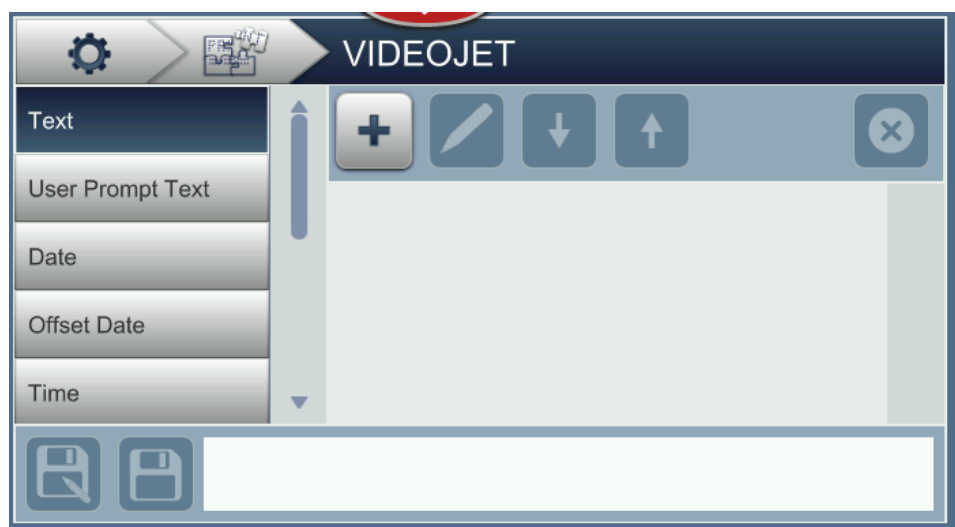

Figure 6-8: Custom Reference Editor
4. The Custom Reference Editor screen opens as shown in the Figure 6-8.
4. The Custom Reference Editor screen opens as shown in the Figure 6-8 on page 6-11.